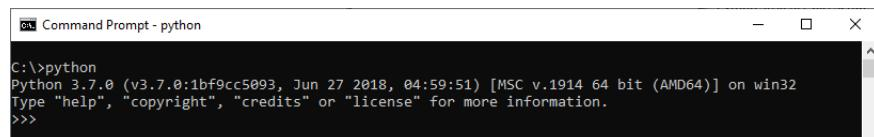

Figure 18 Python installation verification on command prompt window
- b On the root directory, type *python* and press <Enter>. See Figure 18.
6 On the command prompt window shown in Figure 18, you may optionally enter the following commands to install the 'NumPy', 'SciPy' and 'Matplotlib' libraries: